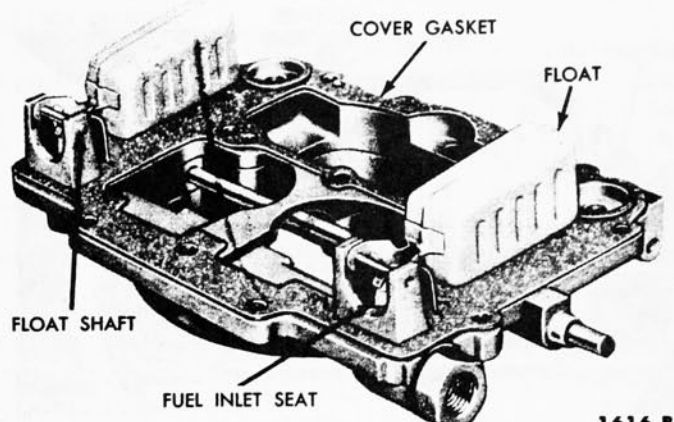

FIG. 44—Fuel Inlet Needle, Seats, and Float Installed
6. Place a new air horn gasket on the air horn, then install the fuel inlet needle seats, gaskets, and needles (Fig. 44). **Install the fuel inlet needles in their matched seats. Do not install the left needle in the right seat or vice versa. Inlet needles and seats are matched assemblies.**
7. Install the floats on the same side of the carburetor from which they were removed (Fig. 44), then refer to "Carburetor Bench Adjustments" and adjust the float alignment, float setting, and float drop.